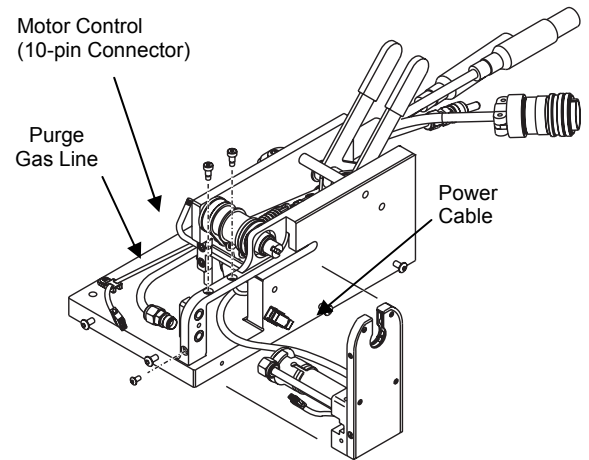

Figure 56 *Reconnect the Internal Cabling*
14. Reconnect the purge gas line. See Figure 56.